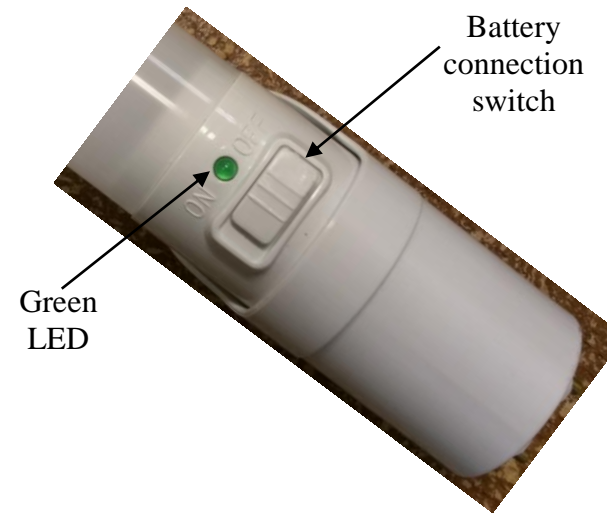

Fig. 2
7. **IMPORTANT:** Turn “on” a battery connection switch (see Fig. 2) on an Aleddra’s EM G3 LED T8 lamp. The battery connection switch comes with a default “off” to prevent the built-in battery from being depleted and damaged.